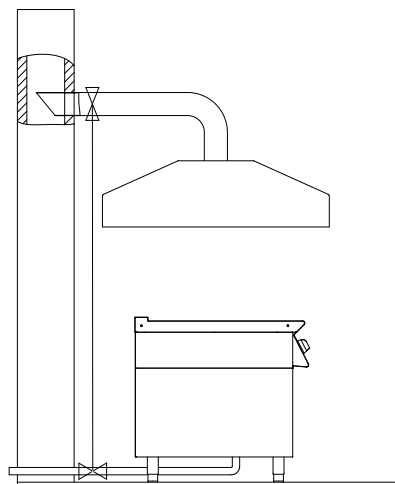

Fig. 4
- the end part of the appliance evacuation pipe must be positioned inside the base perimeter projection of the hood (**Fig.4**).